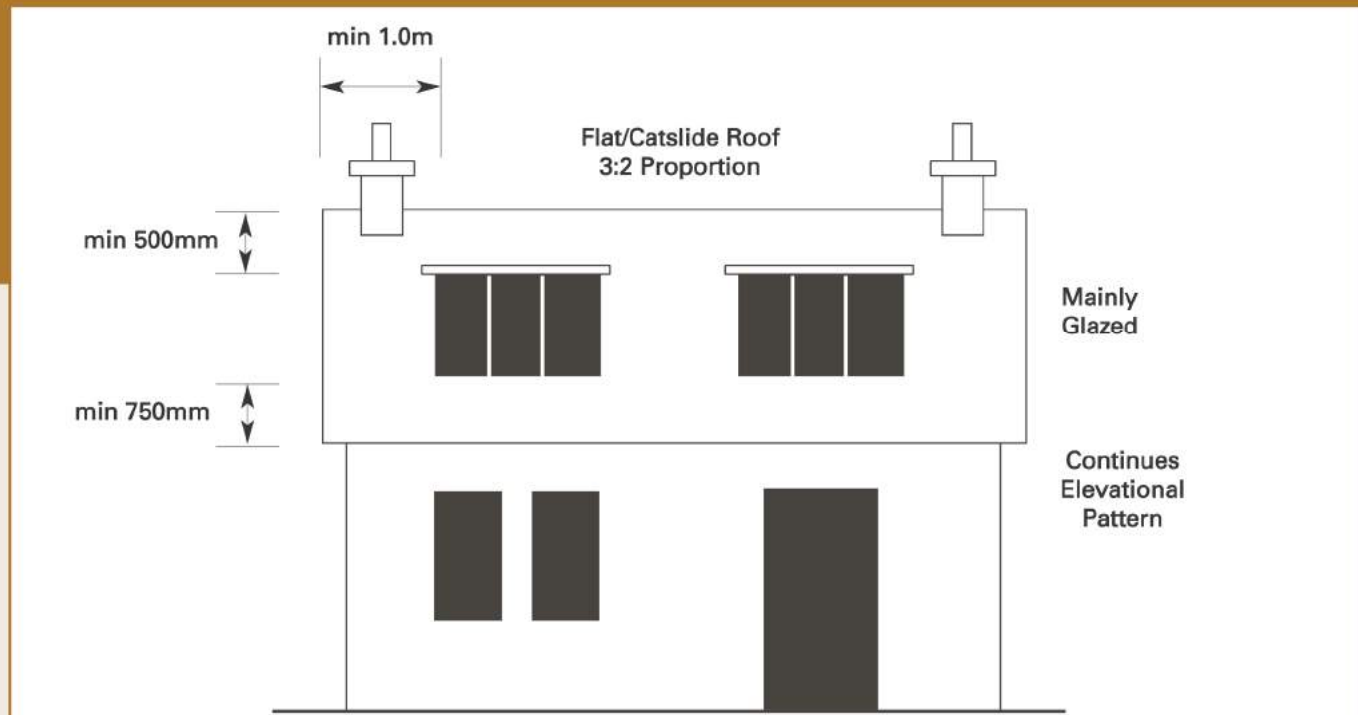

Figure 20 : BOX DORMERS - Dimensional/elevational constraints where applicable
- a tidy flat or cat-slide roof (Figure 20)